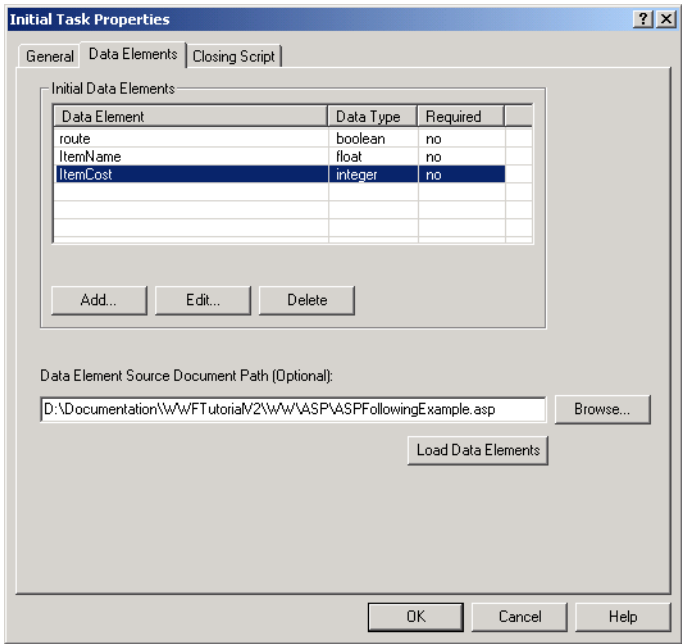

Figure 32-5. Initial Task dialog with new Task data elements.
- ❺ Click **OK**.
- ❻ Now set the required status by simply clicking in the **Required** column to change the Yes/No status (see Figure 32-5, below).